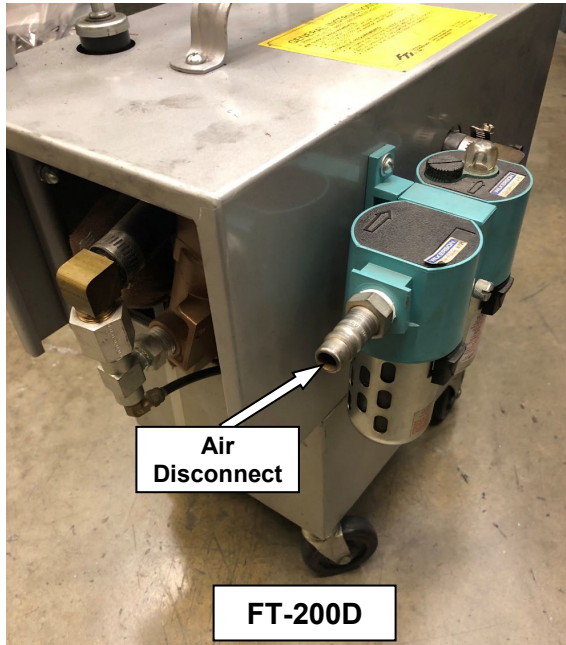

Figure 2.0-2
5. ⚠ In the event of a ruptured or leaking hydraulic hose, **IMMEDIATELY RELEASE THE TRIGGER AND DISCONNECT THE AIR LINE** from the PowerPak at the air coupler (see Figure 2.0-2). **Never use your hands** to grasp a leaking hose under pressure. The force of escaping hydraulic fluid could cause serious injury. If hydraulic oil should penetrate the skin, medical attention must be sought immediately.